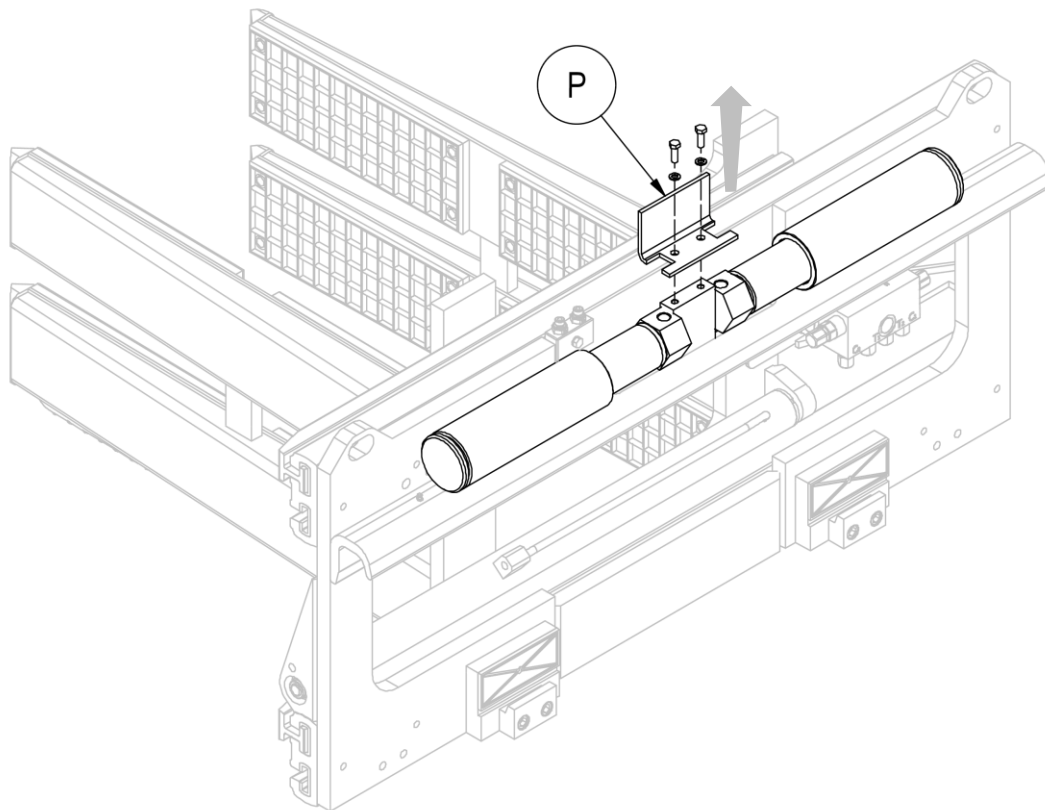
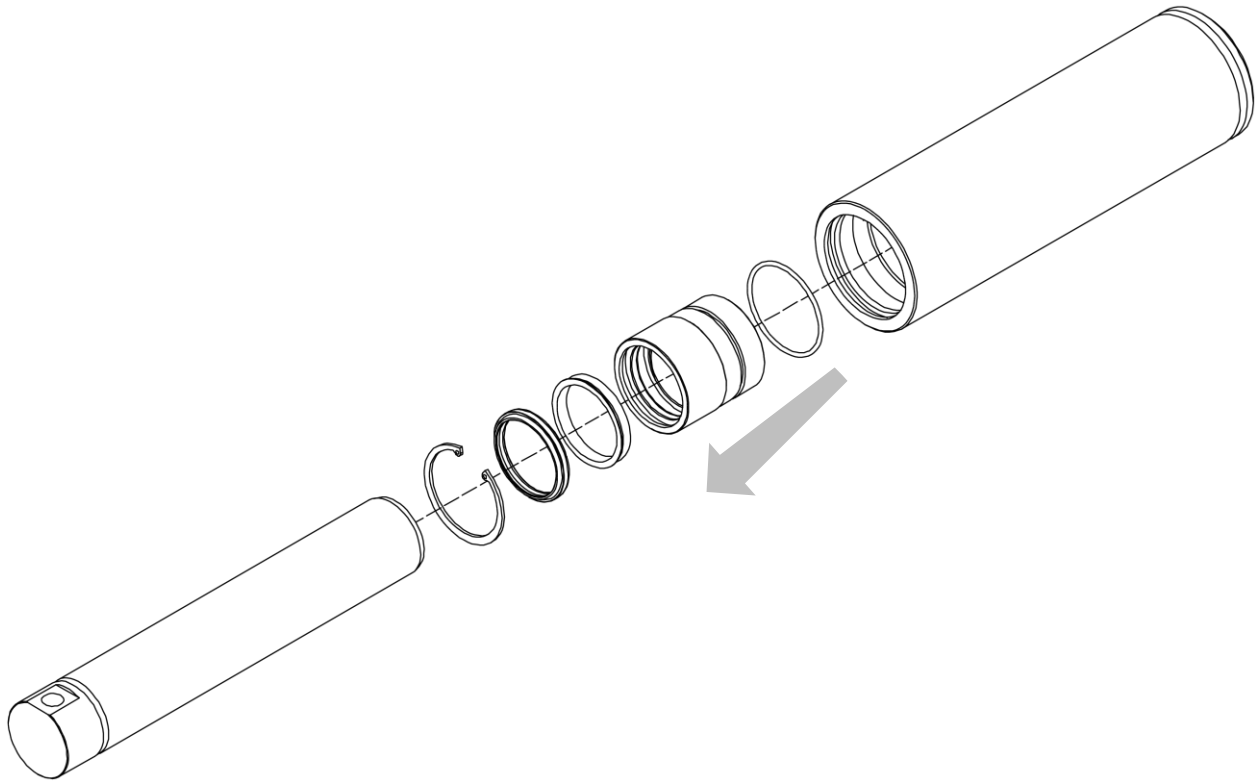

Figure 39
Figure 40
3. Remove dual coupling after removing the “protection bracket” (P) with its associated bolts, (in *Removing the Equipment from* the Forklift Truck this step has already been outlined).
7. Use *Figure 39* and *Figure 40* as guides.